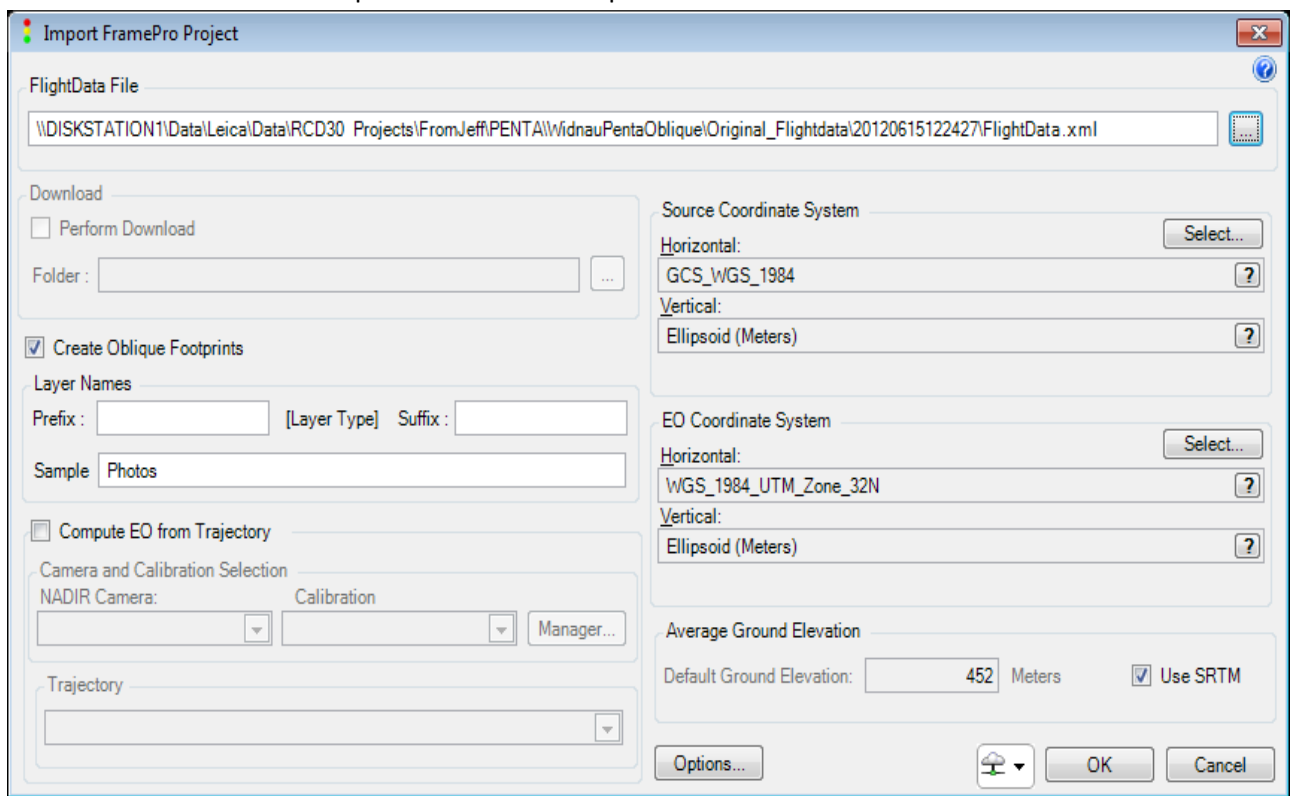

Fig. 1.5
- 3.2. If this FramePro data hasn't already been downloaded, the *Download* groupbox on the dialog (Refer Fig. 1.5) will be enabled, and the user will be bound to "download" the data to a user-selected location, prior to proceeding with the "import". On the other hand, if the FramePro data has been downloaded, however, the given *FlightData.xml* doesn't conform to the specifications of the current FramePro version, the user will still be required do "download" the project prior to the "import".